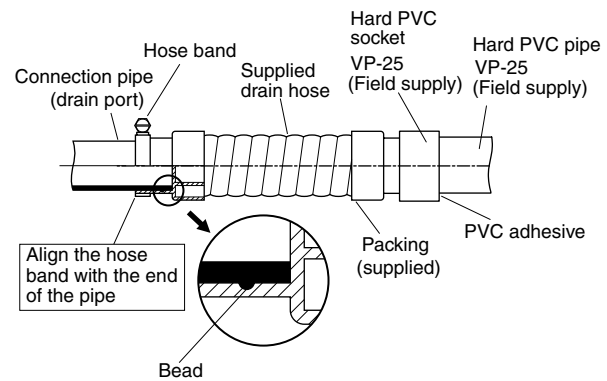

Fig. 3-6
- (1) Prepare a standard hard PVC pipe (O.D. 1-1/4 in.) for the drain and use the supplied drain hose and hose band to prevent water leaks. The PVC pipe must be purchased separately. The unit's transparent drain port allows you to check drainage. (Fig. 3-6)
- **Insert the drain pipe until it contacts the socket, as shown in Fig. 3-6, then secure it tightly with the hose band.**
- **Align the hose bands with the end of the hose. Tighten the hose band firmly. Please make sure that the bead is not covered by the hose band. (Fig. 3-6)**
Tighten the hose clamps so their locking nuts face upward. (Fig. 3-6)